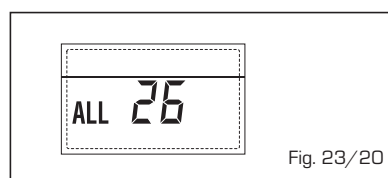

Fig. 23/20
- **ANOMALY SOLAR APPLICATION COMPATIBILITY "ALL 27" (fig. 23/21)**